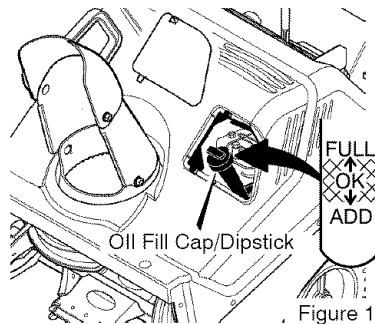
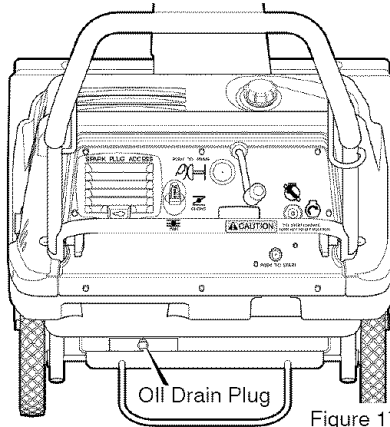

Figure 16
Figure 17
Check the crankcase oil level before starting the engine and after each eight (8) hours of continuous use. See Figure 16. Add S.A.E. 5W30 motor oil as needed. Synthetic 5W30 is acceptable for all temperatures. Tighten fill cap/dipstick securely each time you check the oil level.
2. When the engine is warm, remove the **oil drain plug** (see Figure 17) and the **oil fill cap/dipstick** (see Figure 16). Drain the oil into a suitable container.